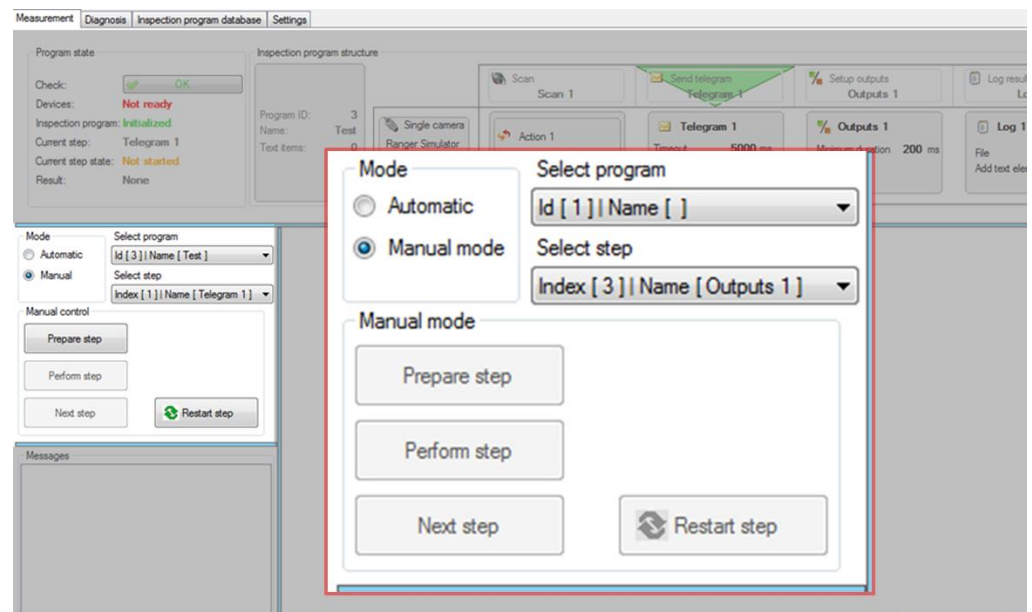

Figure 23 Measurement control section
- Buttons – The activation of button will let you run your selected program. The sample shown on Figure 23 demonstrates manual mode activation.